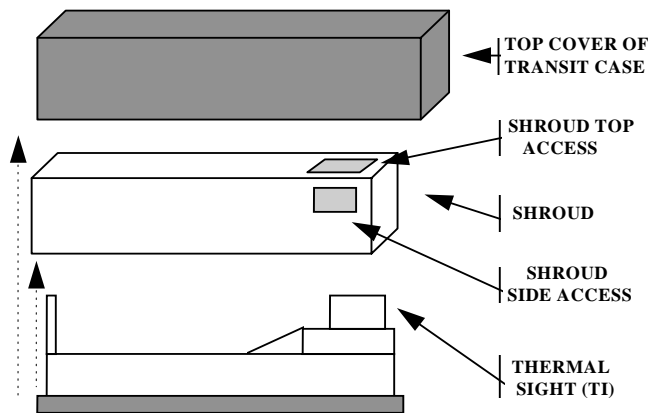

Figure 1. Thermal sight (TI) with top cover of case and shroud removed.
- a. Remove TOP COVER OF TRANSIT CASE and SHROUD from TI as shown in figure 1.